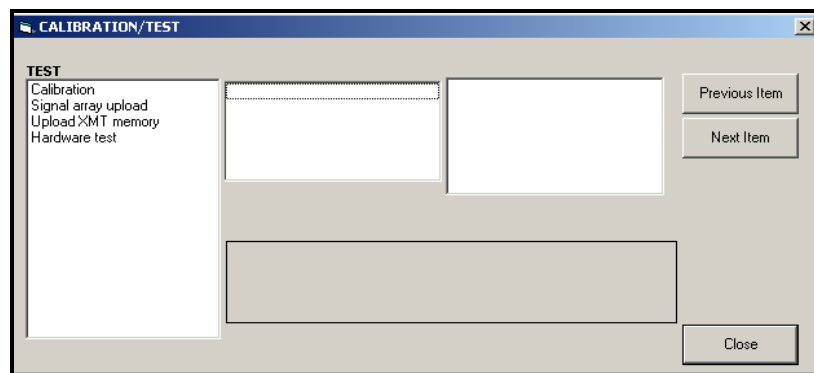

Figure 11: The Calibration/Test Menu
5. To enter data into the user program, double-click on the *Calibration/Test* menu. The window appears similar to Figure 11.
1. From the *Calibration/Test* menu (see Figure 11 on page 48), double-click on the *Calibration* entry to open the option.
To calibrate any option card installed in Slot 1 of the XMT868i, enter the *Calibration/Test* menu as shown in Figure 11 on page 48.